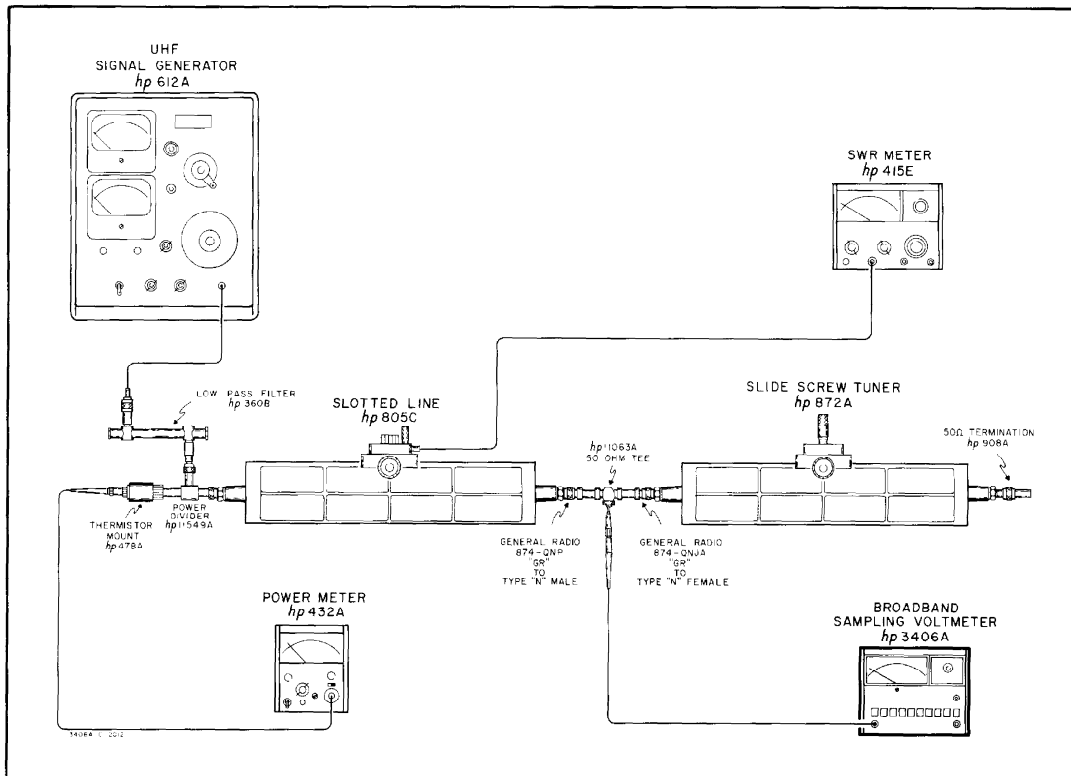

Figure 5-3. 700 MHz to 1.2 GHz Frequency Response Test Setup
5-12. The 700 MHz to 1.2 GHz accuracy check test setup is shown in Figure 5-3, and requires the following equipment:
- a. Connect the equipment as shown in Figure 5-3.